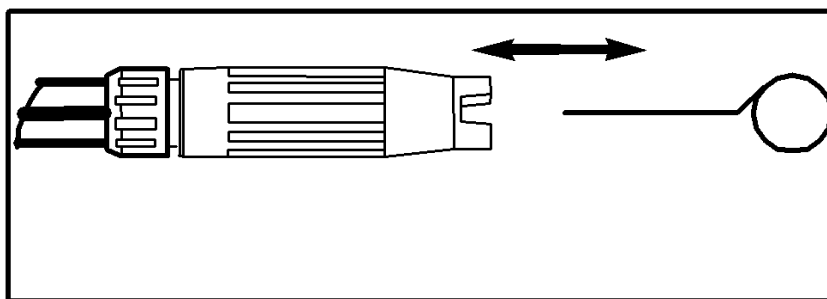

Figure 6 - Insert the tip cleaning tool into the nozzle opening and move it back and forth until the debris is removed
- Using the included tip cleaning tool or an unfolded paper clip, insert the wire into the nozzle opening and move it back and forth until the debris is removed (see fig. 6).